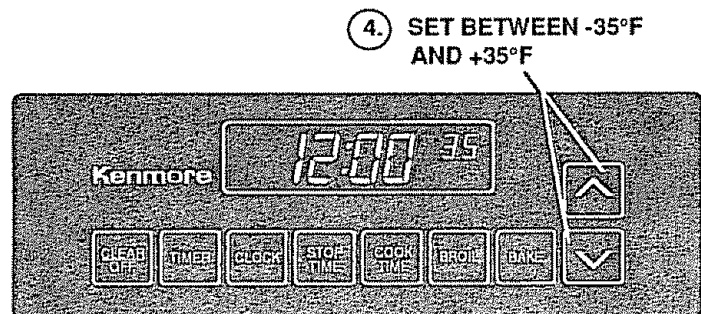

Fig. 4
4. The temperature can be adjusted up to +35°F hotter or -35°F cooler. Use up or down to select the temperature adjustment you want. See Fig. 4. The temperature you select is the new preset temperature adjustment.